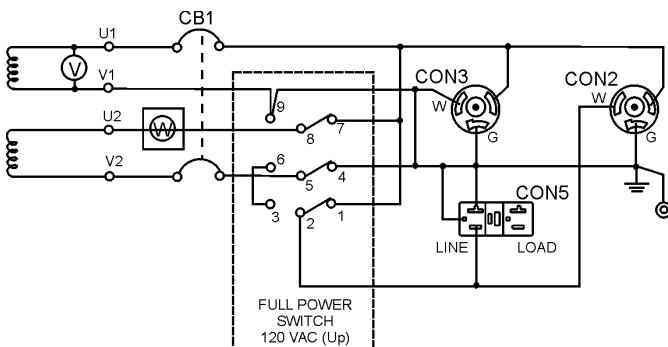
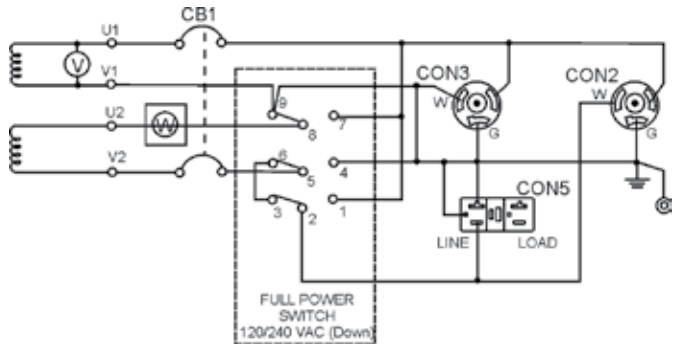

Figure 5. 120V Full Power Switch Simplified Diagram (Up Position)
Figure 6. 240/120V Full Power Switch Simplified Diagram (Down Position)
15. **Full Power Switch** – The generator is provided with a full power switch. Figure 5 and Figure 6 show simplified wiring diagrams of the dual voltage system.